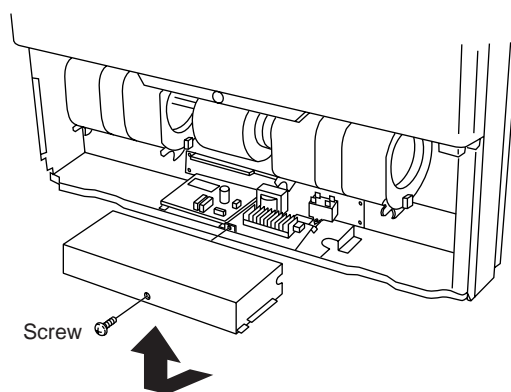
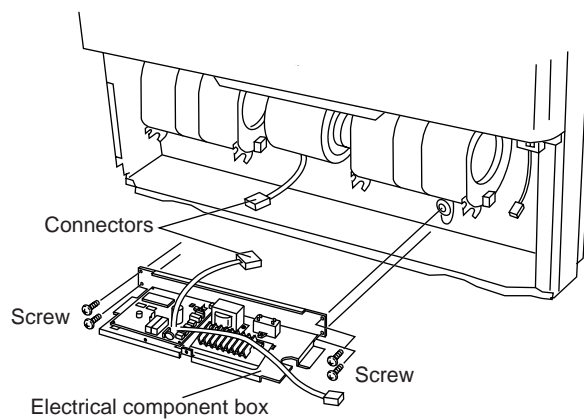

Fig.4
Fig.5
- (1) Remove the front screw with a screwdriver. (Fig. 4)
- (2) Slide the lid out and up. (Fig. 4)
- (3) Disconnect the wiring as necessary.
- (4) Remove the 4 screws, then pull out the electrical component box. (Fig. 5)